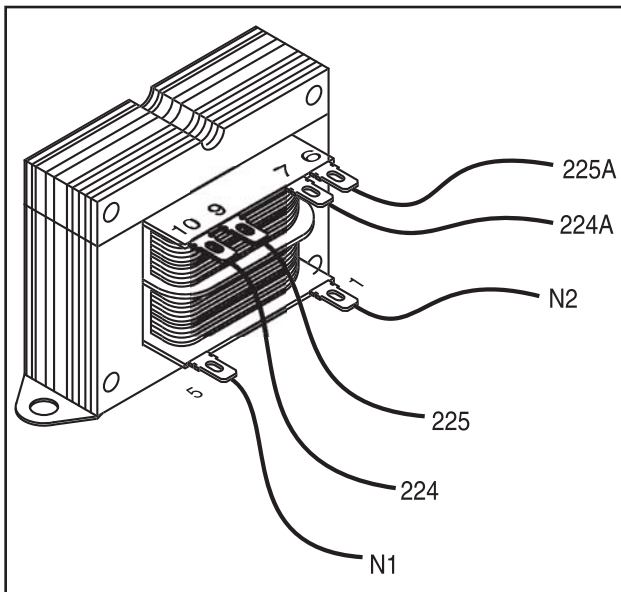

Figure 6. Transformer (TX)
3. See Figure 6. Disconnect Wires N1, N2, 224, 225, 224A, 225A from transformer (TX).